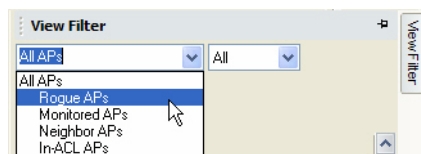

Figure 10-9: Filtering on Rogue APs
- 2) Use the View Filter drop-down box to select Rogue APs. See Figure 10-9.
As shown in Figure 10-9 earlier in this chapter, the Floor Plan's View Filter tab only allows filtering on APs. While the user can locate stations as well, the process is slightly different, and must be conducted from the Infrastructure screen.